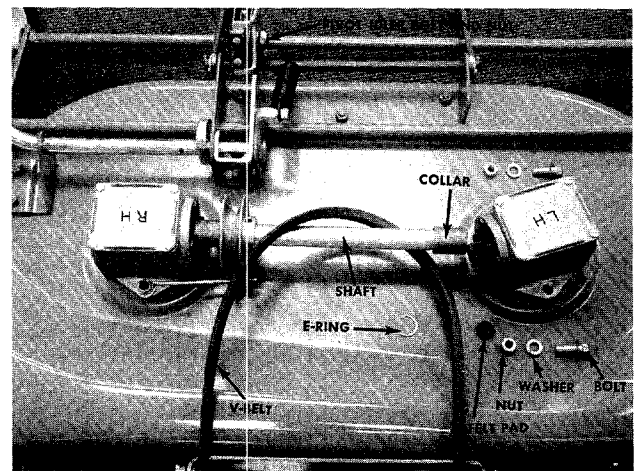

FIGURE 22. DECK BELT REPLACEMENT
- Step 1. Engage the blade engagement lever as shown in figure 22.
- Step 2. Remove the E-ring from the shaft, See figure 22.